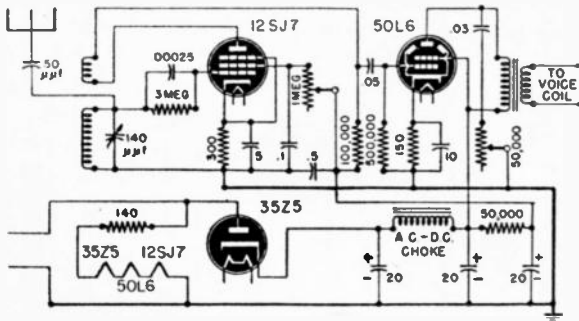

Fig. 106
A. The hookup shown in Fig. 106 will operate a speaker on local station, if a good aerial is used. Coils may be standard broadcast or short-wave plug-ins. The same circuit may be adapted to other types of tubes. For